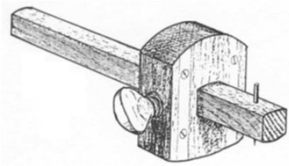

Fig 1
- The first one has been done for you as in Fig 1.